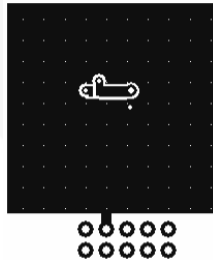
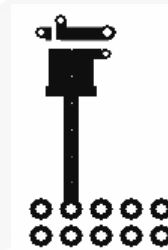

Figure 4. 1 Square Inch of 2-ounce copper
Figure 5. Minimum Pads of 2-ounce Copper
| I IN          | Input Current  | V IN = 5V, Continuous (2) (see Figure 4) |  | 8       | A    |    |
|                          |  | T A = 25°C (2) (see Figure 4)            |  | 2.3     |      |    |
| I DIODE_CONT  | Steady-State Diode Continuous Forward Current from POS to NEG (2) (see Figure 4)  |  |  | 2       | A    |    |
| I DIODE_PULSE | Pulsed Diode Forward Current from POS to NEG (300µs Pulse) (2) (see Figure 5)   |  |  | 450     |      |    |
- The device power dissipation and thermal resistance ( $R_\theta$ ) are characterized with device mounted on the following FR4 printed circuit boards, as shown in Figure 4 and Figure 5
| $R_{\theta\text{JA}}$ | Thermal Resistance, Junction to Ambient (2) (see Figure 4) | 50    |                    |